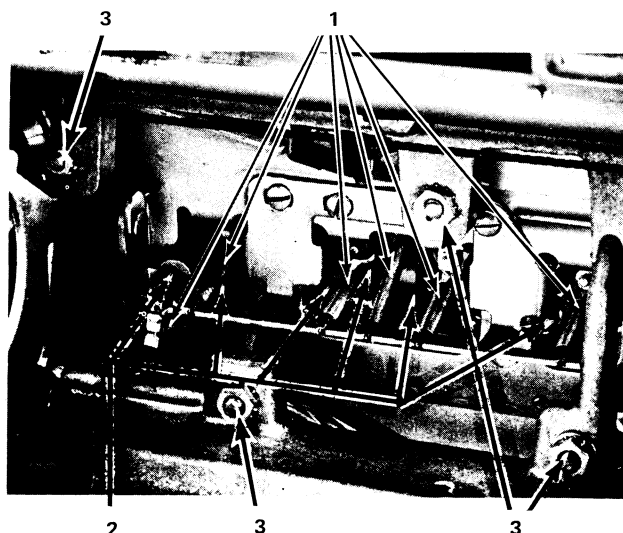

Figure 4-26. Differential Bracket Removal (Rear of Printer, Motor Removed)
8. Remove all latch springs (No. 1, Figure 4-26).
9. Remove all latch links by pulling them to the rear (No. 2, Figure 4-26).
10. Remove the four differential mounting nuts (No. 3, Figure 4-26). *Do not* lose the selector plate shim in the lower right mounting stud hole (observed from the rear of the printer).